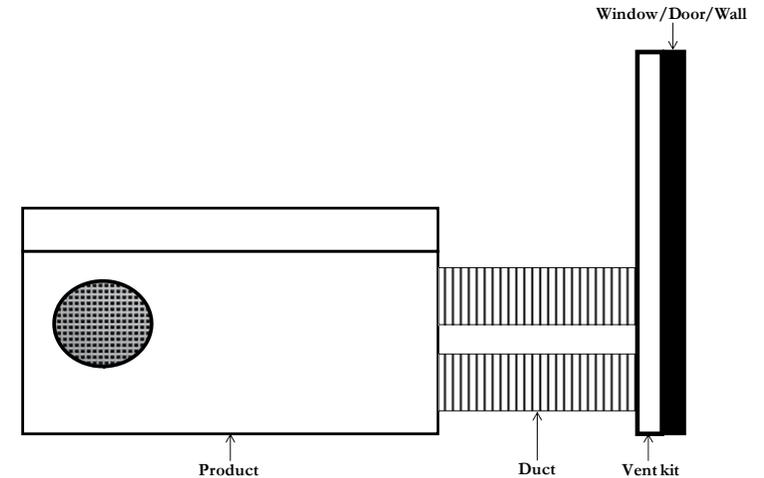

Figure 2. Installation of the product using a vent kit.
- The ventilation kit can interface with the outdoors through a window, door or wall as illustrated in **Figure 2**. If the product is vented through a wall, the customer is responsible for complying with all applicable codes.